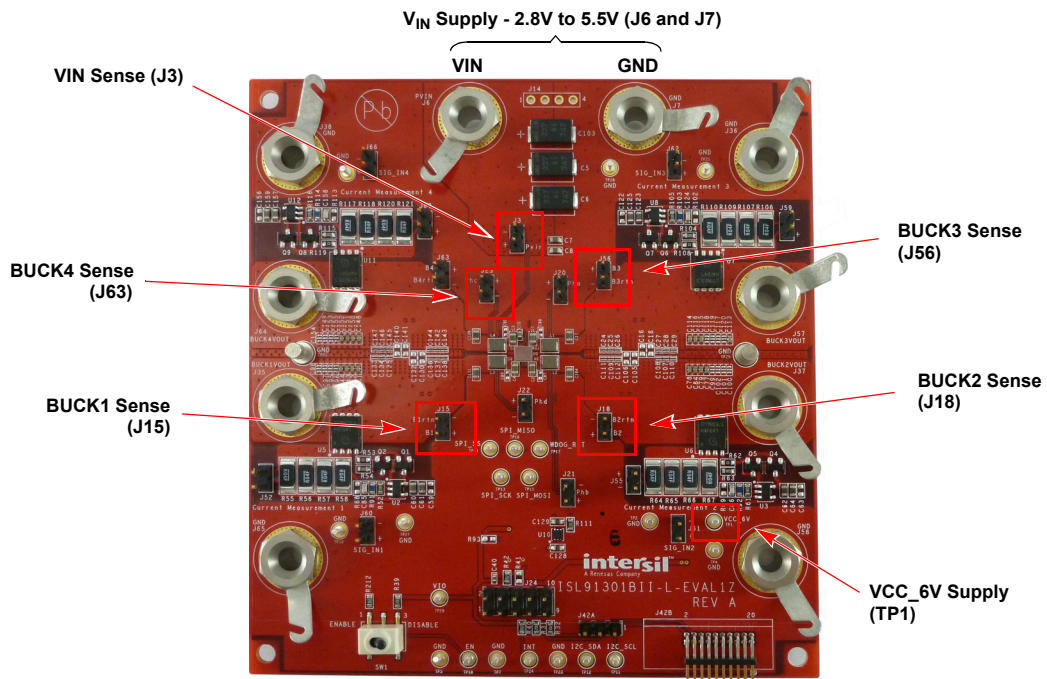

Figure 11. ISL91301BII-L/H-EV1Z Efficiency Measurement Connections
- (1) Connect a power supply at J6 (V_{IN} supply), with the voltage set between 2.5V and 5.5V (ISL91301BII-L-EV1Z) or a voltage between 2.8V and 5.5V (ISL91301BII-H-EV1Z). The current limit should be set high enough to support the maximum load current with additional head room. If the power supply supports remote sense lines, use a Kelvin connection on J3. Otherwise, connect a multimeter at J3.
- (2) Apply 6V to TP1 (VCC_6V) to initiate the startup sequence and all four outputs will turn on. To get an accurate single channel measurement, disable the other three outputs using the GUI.
- (3) Turn on the electronic load at VOUTx. The connection should be made at J35 (VOUT1), J37 (VOUT2), J57 (VOUT3), or J64 (VOUT4). Make sure the load current does not exceed 3A per phase (ISL91301BII-L-EV1Z) or 5A per phase (ISL91301BII-H-EV1Z), and the correct wire size is used when attaching the electronic load.
- (4) Measure the output voltage with a multimeter. The voltage should regulate within datasheet specification limits.
- (5) To determine efficiency, measure input and output voltages at the Kelvin sense test points (S+ and S-), which are located at the J3 (V_{IN} SENSE) and J15 (BUCK1 SENSE), J18 (BUCK2 SENSE), J56 (BUCK3 SENSE), or J63 (BUCK4 SENSE) headers. Measure the input and output currents from the V_{IN} power supply and the electronic load. Calculate efficiency based on these measurements. For detailed setup information, refer to Figure 11 on page 13.